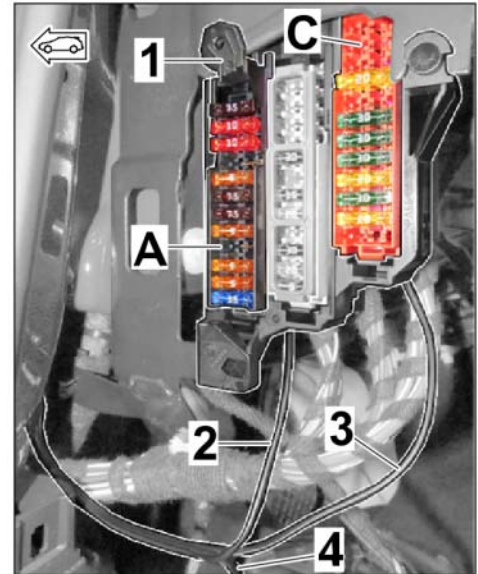

Figure 15
3.2.3 Connect power supply as shown in the table (⇒ *Figure 15*).
3.2.5 Protect the front camera power supply with new fuse(s) ⇒ *Figure 15 -A9 and C2-*.